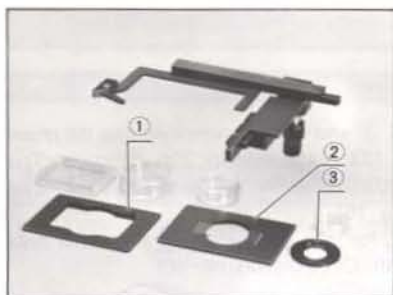

Fig. 12
- 1) A Terasaki holder ① is optionally available to hold a Terasaki plate or a 65mm-dia. petri dish; while an optional slide glass holder ② can be used to hold a 1" X 3" slide glass or a 54mm-dia. petri dish on the stage. (Fig. 12)
- 2) A 96-well micro-titre plate or a 24-well micro-titre plate can be directly mounted on the stage. (Fig. 12)
- ★ The 35 mm-dia. petri dish holder ③ provided is used to prevent a specimen vessel from falling through the opening in the plain stage. (Fig. 12)